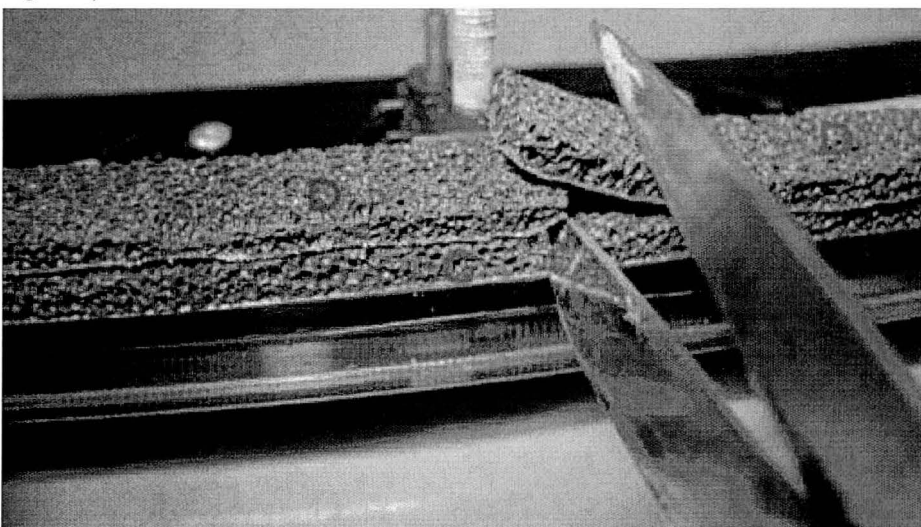

Figure 6
7. Where the two side seals (D) meet in the centre of the assembly cut off the excess to create a butt joint (see Figure 6)